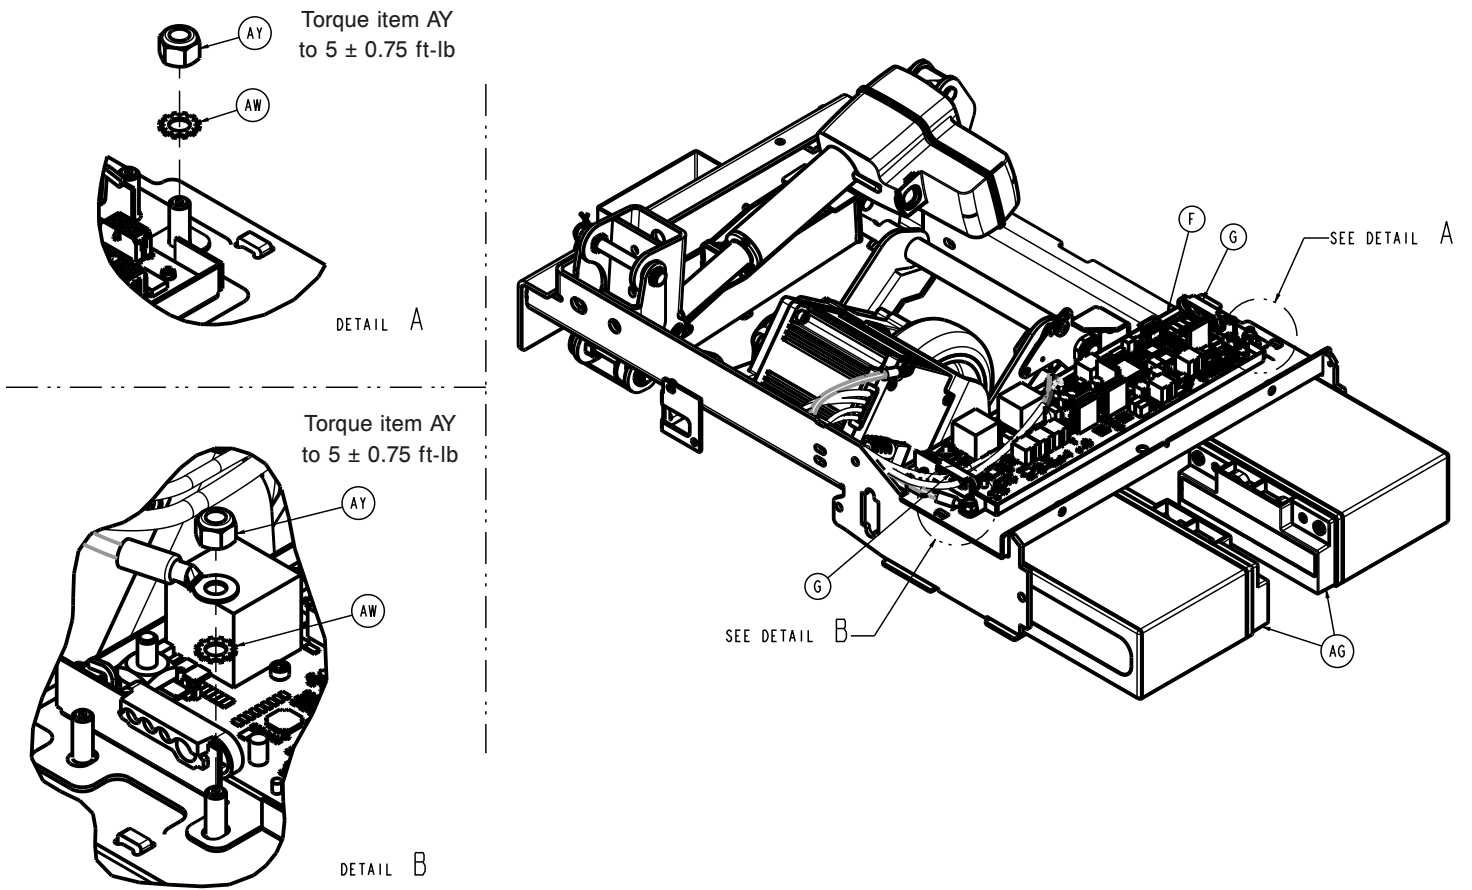

Figure 67 – Removing the batteries
10. Remove the batteries (AG) (Figure 67).
- 16. Unclip the cable retainer (G) (Figure 67).
- 17. Using a ratchet and 7/16” socket, remove the nut (AY) that secures the ground wire to the frame weldment (Figure 67 detail B). Save the nut.
19. Disconnect the motor communication cable from the **Zoom** control (F) (Figure 67).
10. Unclip the cable retainer (G) (Figure 67).
11. Using a ratchet and 7/16" socket, remove the nut (AY) that secures the foot end ground wire to the frame weldment (Figure 67 detail B). Save the nut.
12. Using a ratchet and 7/16" socket, remove the nut (AY) that secures the motor power wires (U, V, W) to the **Zoom** control board (F) and unclip from the cable retainer (G) (Figure 67). Save the nut.
13. Disconnect the motor communication cable from the **Zoom** control board (F) and unclip from the cable retainer (G) (Figure 67).
14. Using a ratchet and 7/16" socket, remove the nut (AY) that secures the head end ground wire to the frame weldment (Figure 67 detail B). Save the nut.